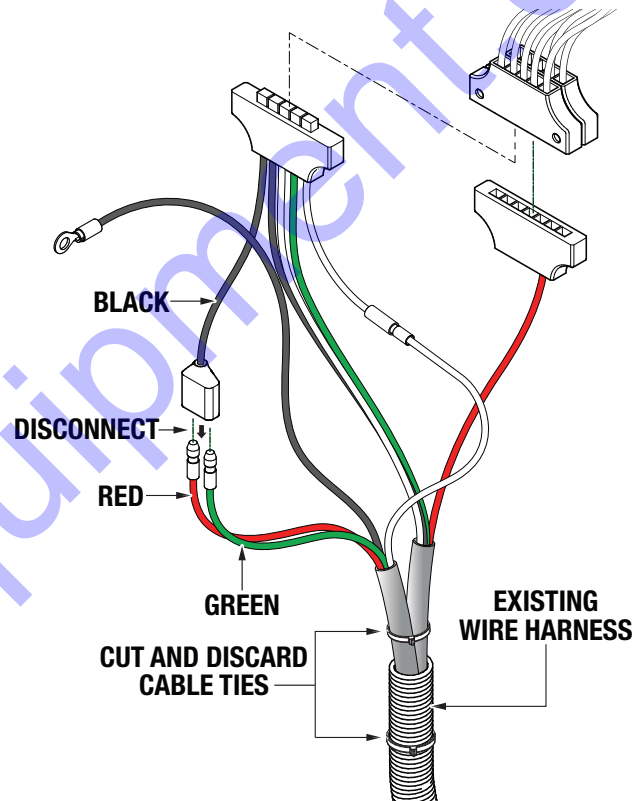

Figure 13. Existing Wiring Disconnection (MVH308DZ/MVH408DZ)
1. Cut and discard the cable ties from the existing wire harness (Figure 13).
2. Locate the electrical connector that has a red wire and a green wire on one end, and a black wire on the other end (Figure 13). Disconnect the red and green wires.